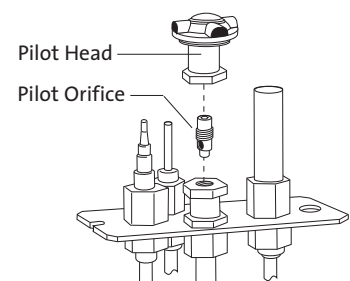

Figure 18. Remove pilot head and pilot orifice.
8. Change the Pilot Orifice. From within the firebox, pull the pilot hood off the pilot assembly. See Fig. 18. Using the 4 mm allen wrench included with the conversion kit, remove the original pilot orifice (counterclockwise). Replace with the appropriate orifice: